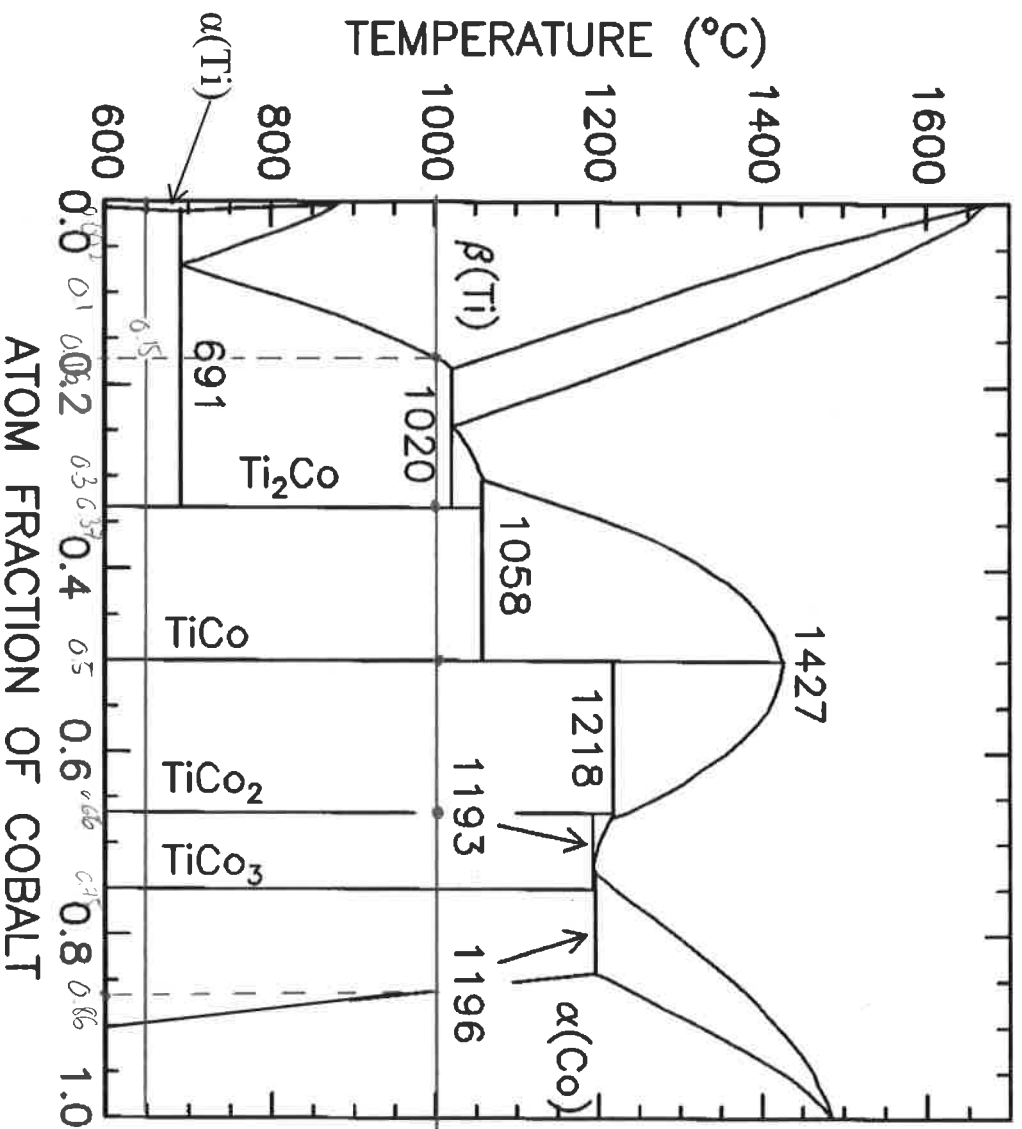

Figure 3 Ti-Co binary phase diagram
3. Thick Cobalt (Co) and Titanium (Ti) metal plates are attached against each other (=semi-infinite diffusion couple) at the temperature of 1000°C. Based on the phase diagram (see Fig. 3) draw the structure of the diffusion couple and the composition profiles for both components, when sufficient amount of time has elapsed so that local equilibria is achieved in all interfaces. (NB. Mark clearly the compositions of the phases at all interfaces!) In addition, please explain shortly how the structure of the diffusion couple is changed if the temperature is then decreased down to 650°C? (4+1p)